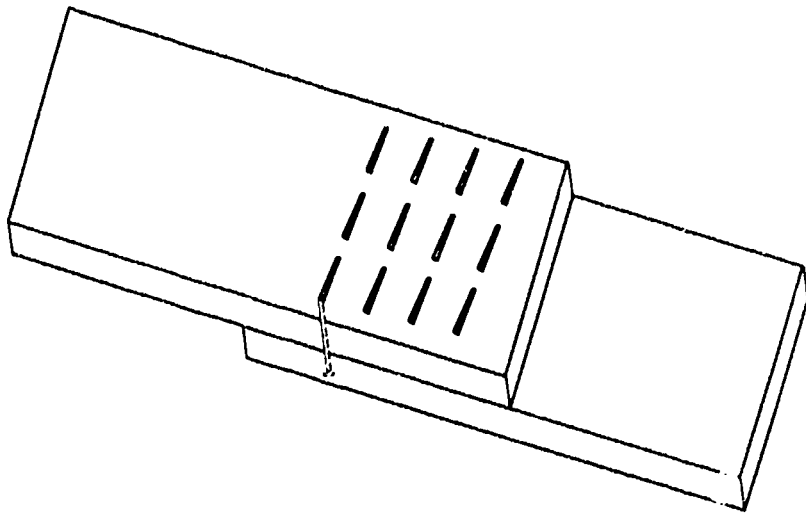
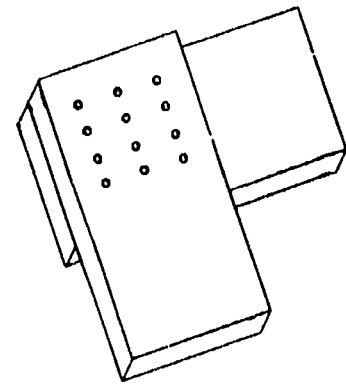

Figure 1. Fastener 1: bottom view - the nails are clinched over across the wood grain.
Figure 2. Top view: the boards can also be nailed together at right angles.
2. **Fastener 1\* - Nails:** Position two boards together as shown in Figure 1. The two boards should measure no more than one foot end to end when nailed together. First, evenly space the twelve nails. The nails should be clinched over, either *with* the wood grain or *across* the wood grain. (Across the grain provides 20 percent added holding strength.) The boards can also be fastened at right angles to each other (see Figure 2).